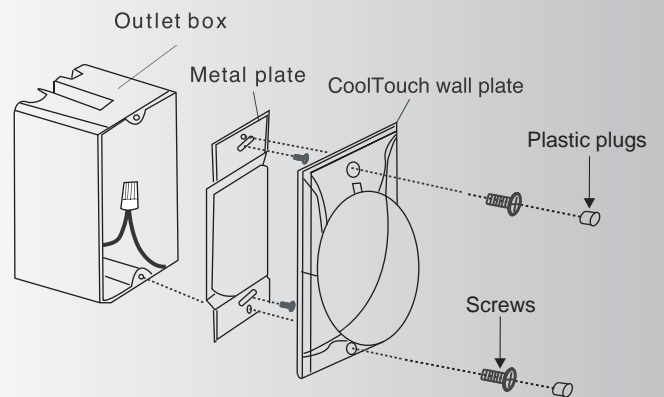

Fig. 26
Step 2. Attach the metal plate and CoolTouch™ wall plate to the existing wall outlet box with 4 screws provided. Then place the two plastic plugs into the wall plate. (Fig.26)
After installing the wall anchors, attach the CoolTouch™ wall plate with the mounting screws and then insert the plastic plugs to finish the installation. (Fig.26)